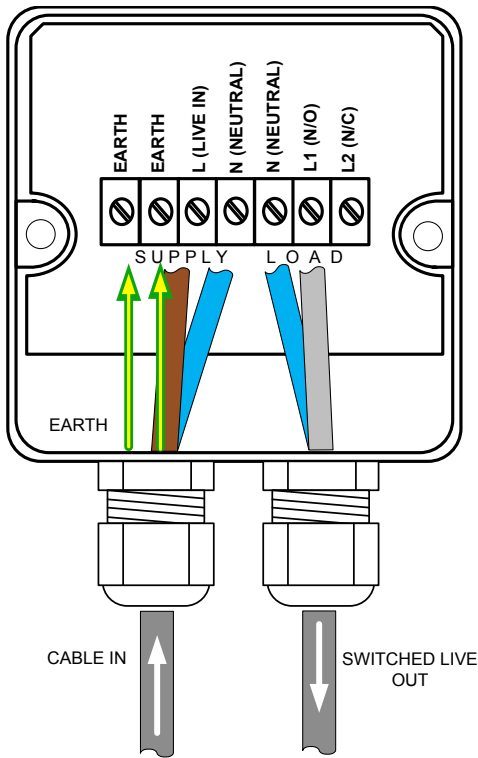

FIG 1.2
3. In most applications the LOAD would be wired as shown in FIG 1.2